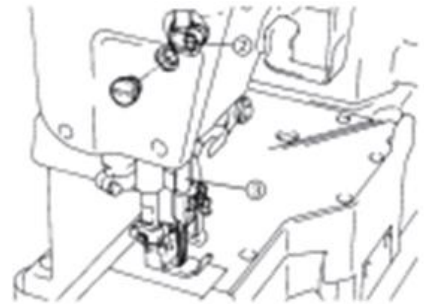

Fig. 1
Loosen screw (item 2), and move the needle bar (item 3) up or down, adjust the needle bar height corresponding to needle gauge (see Fig 1.)